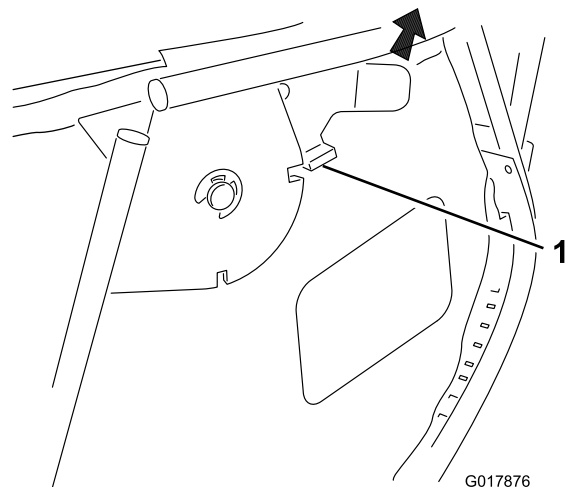

Figure 15
1. Disengage the locking latch (Figure 15).